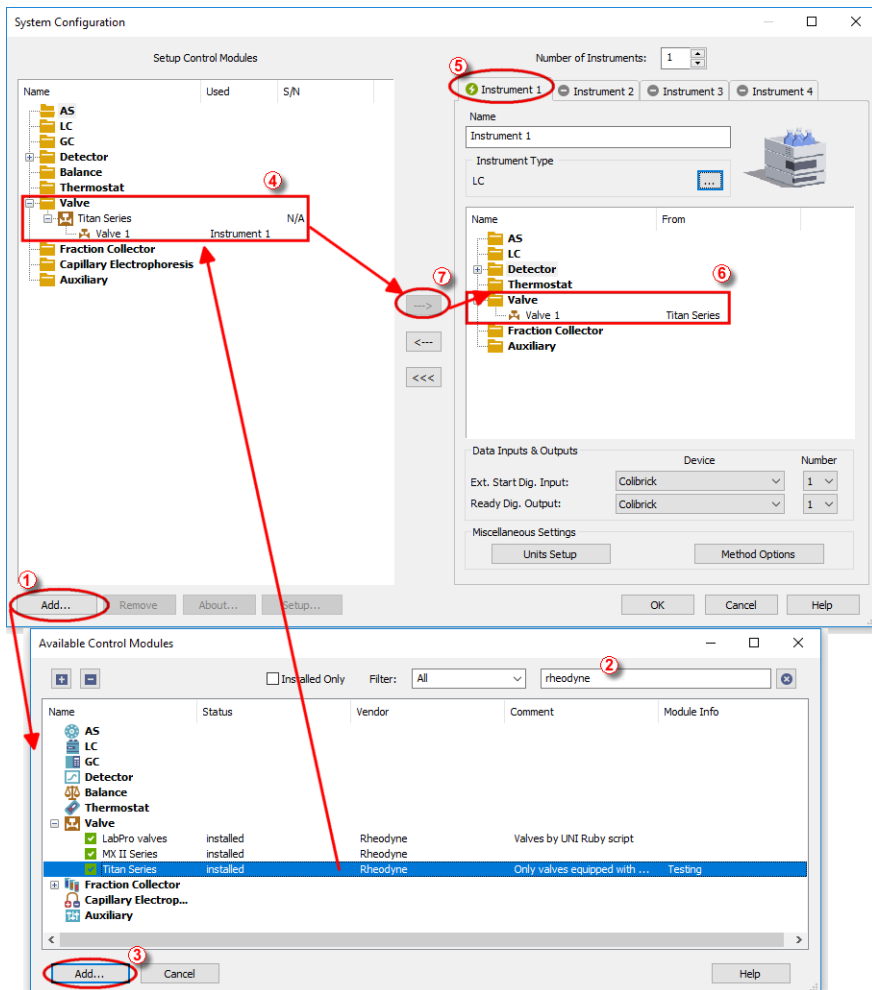

Fig 2: How to add Rheodyne valves
- Press the **Add** button ① (see **Fig 2** on pg 4.) to invoke the **Available Control Modules** dialog.
- You can specify the searching filter ② to simplify the finding of the driver.